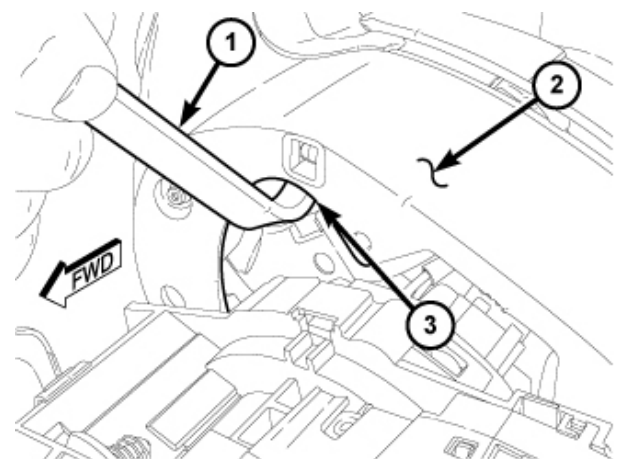

Figure 4 – DAB Removal Tool 10187
8. Insert the short blade (Tip A) of the DAB Removal Tool (Special Tool Number 10187) (1) or the blade of an equivalent prying tool into either of the upper (two o'clock or ten o'clock) access holes (3) of the steering wheel hub rear trim cover (2), being certain to place the blade of the tool on the inboard (steering wheel hub) side of the airbag snap retainer wire loop (Figure 4).